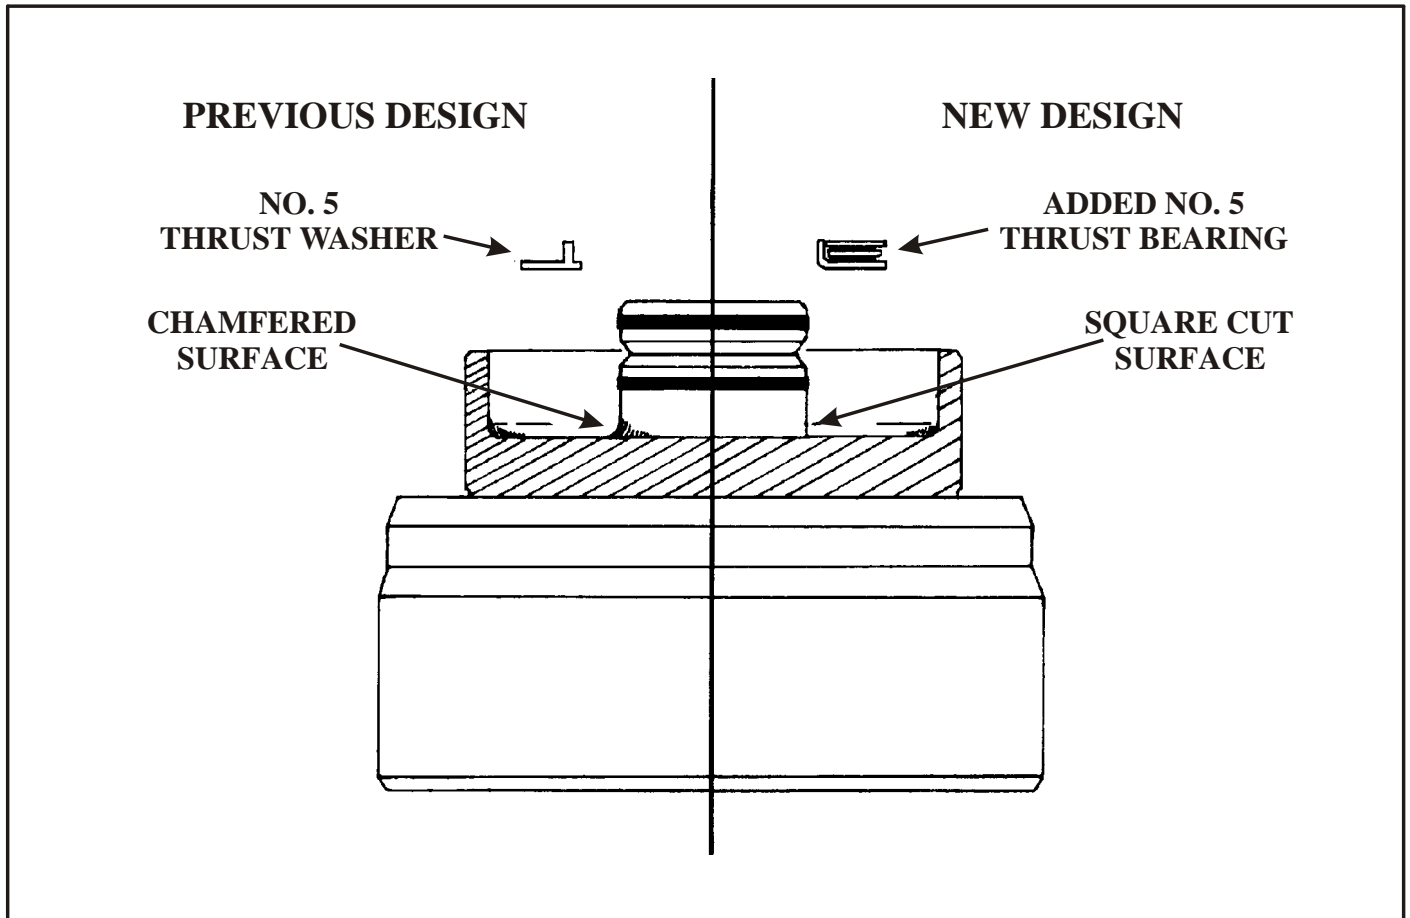

Figure 9
(5) **FORWARD CLUTCH DRUM** - Was machined at the base of the sealing ring hub to eliminate the chamfer, and provide a flat surface to accommodate the added number 5 thrust bearing, as shown in Figure 9.
- (7) The new design forward clutch drum WILL retro-fit back on ALL previous models. (See Figure 9).
- (8) The previous design forward clutch drum CANNOT be used in 1993 and later models, as the chamfered area at the base of the hub will not let the number 5 bearing seat properly (See Figure 9).